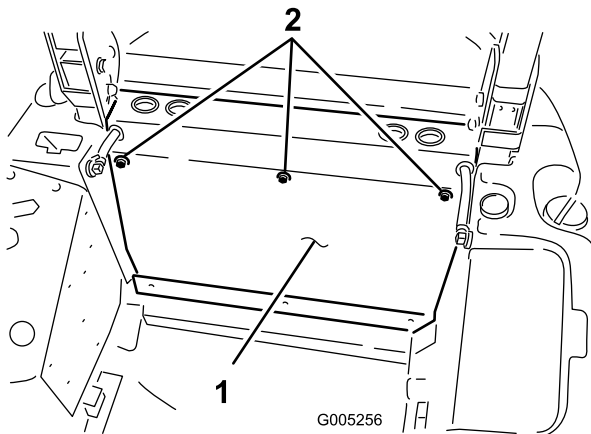

Figure 59
1. Place the rear panel into position and align the top mounting holes with the holes in the frame cross member (Figure 59). Secure the top of the panel to the cross member with 3 screws previously removed.